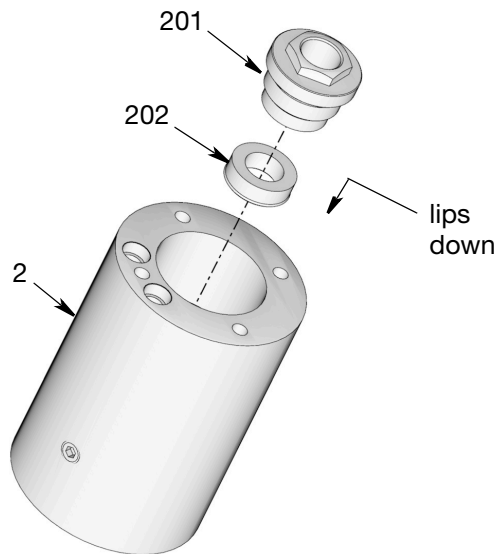

FIG. 36
1. Apply a thin layer of grease to the packing u-cup (202).
2. Use a flat, blunt-end tool to seat u-cup (202), with the lips facing down, into the pump adapter (2) (FIG. 36).
3. Install hex nut (201) inside pump adapter (2). Use a wrench to tighten nut securely (FIG. 36). Torque to 18-22 ft-lb (24-30 N•m)